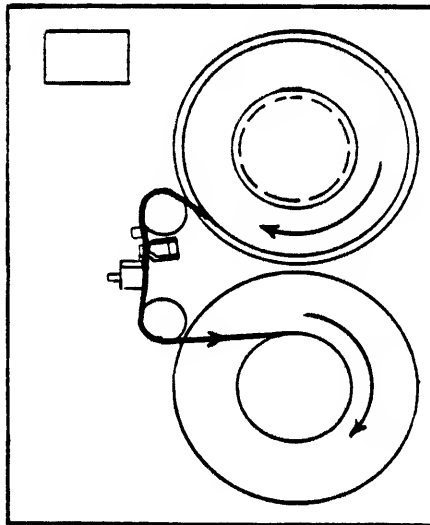

Figure 2-3. TAPE PATH
5. Thread magnetic tape over tape path as shown in Figure 2-3.